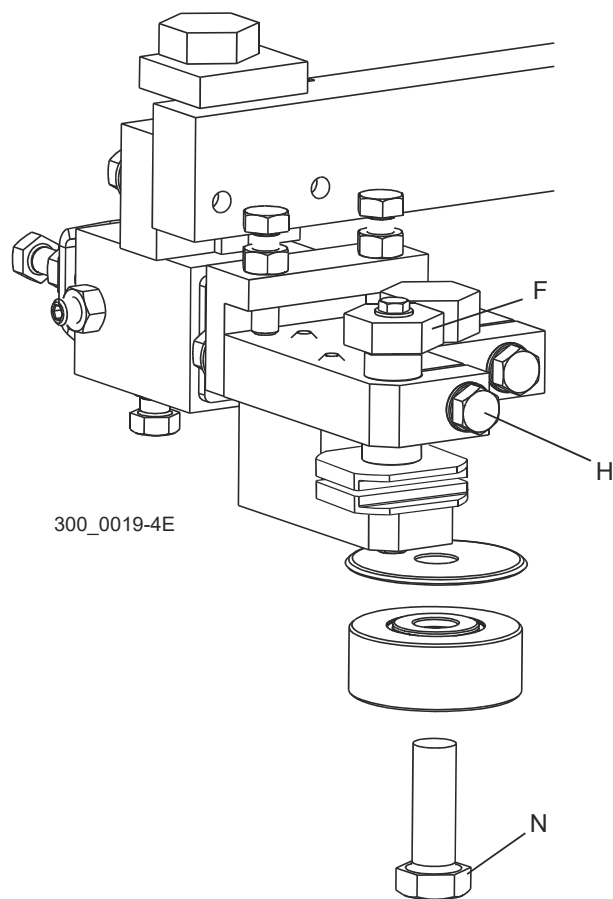

FIG. 6-28
See Figure 6-28. At both blade guide assemblies, loosen clamp bolt (H) and turn bolt (F) counterclockwise to raise the top guide block all the way up. Remove bolt (N) and remove